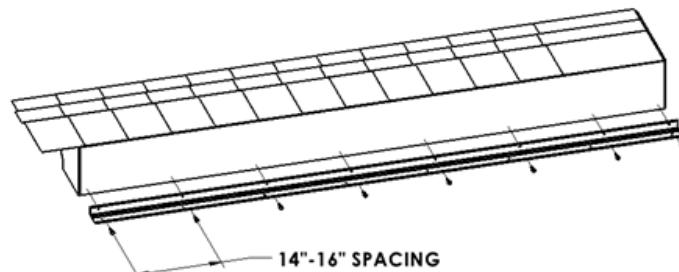
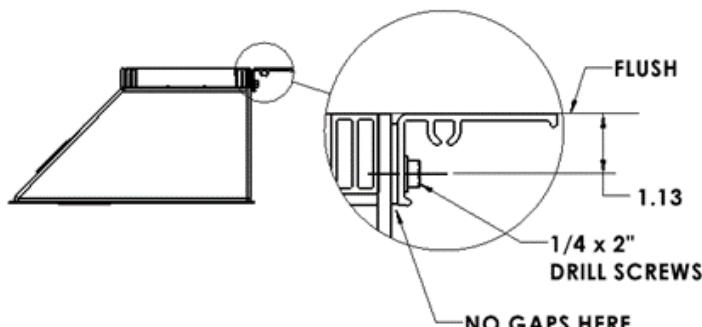

FIGURE 2
FIGURE 3
**3. ATTACH LONG BRACKET w/ Seal (A) TO RIGHT SIDE PAD (D):**
- a. Place the Long Bracket w/Seal (A) next to the Right-Side Pad (D), ensuring that the ends of the bracket are flush with the ends of the Side Pad Backer.
**(7) FASTENERS TO BE USED ON 8' SIDE PADS.**
**(8) FASTENERS TO BE USED ON 9' SIDE PADS.**
c. Mark the screw locations on the short side lip of the bracket for the fasteners, as shown (Figure 2 & Figure 3). Fasteners need to be spaced 14-16" apart. Ensure the new screw locations are not in line with the existing screws on the side of the Right-Side Pad (D).
d. Use the markings above to screw the Long Bracket w/Seal (A) to the Right-Side Pad (D) using the supplied 1/4"x2" Long Drill Screws (G). Make sure the back side of the Long Side Bracket w/Seal and back side of the Right-Side Pad are flush, as shown (Figure 3). Also, ensure that there are no gaps between them.